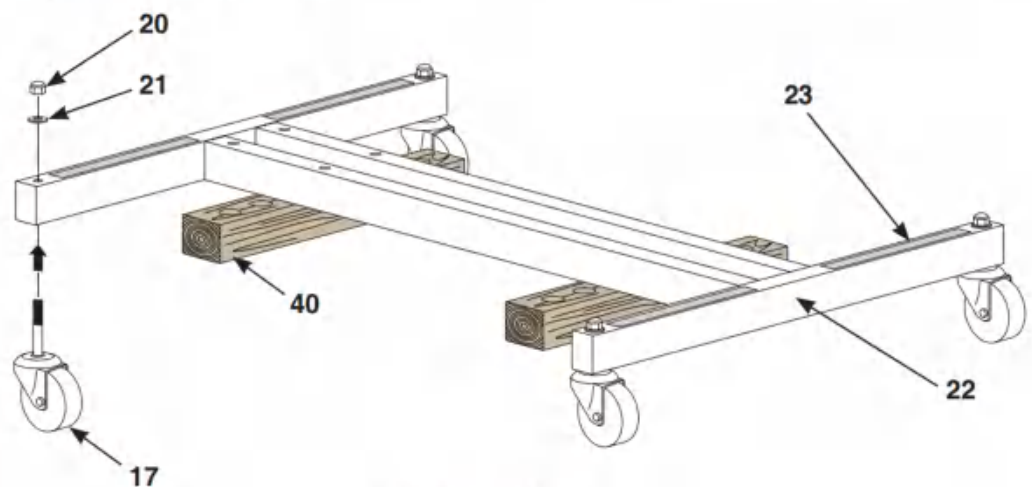

Figure 2
Setup: On a level surface, position the base (Item No. 22) on two wood blocks (40) with the non-skid adhesive strips (23) facing upwards. **See Figure 2.**
1. Mount four casters (17) to the base (22) using washers (21) and acorn nuts (20) as shown in the diagram. Do not over-tighten. **See Figure 2.**